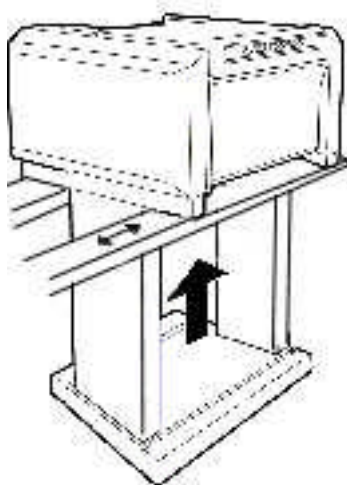

Fig. 1
- The cutter can be lifted with a lifting unit by passing it through the two bars under the structure as indicated in the figure 1.